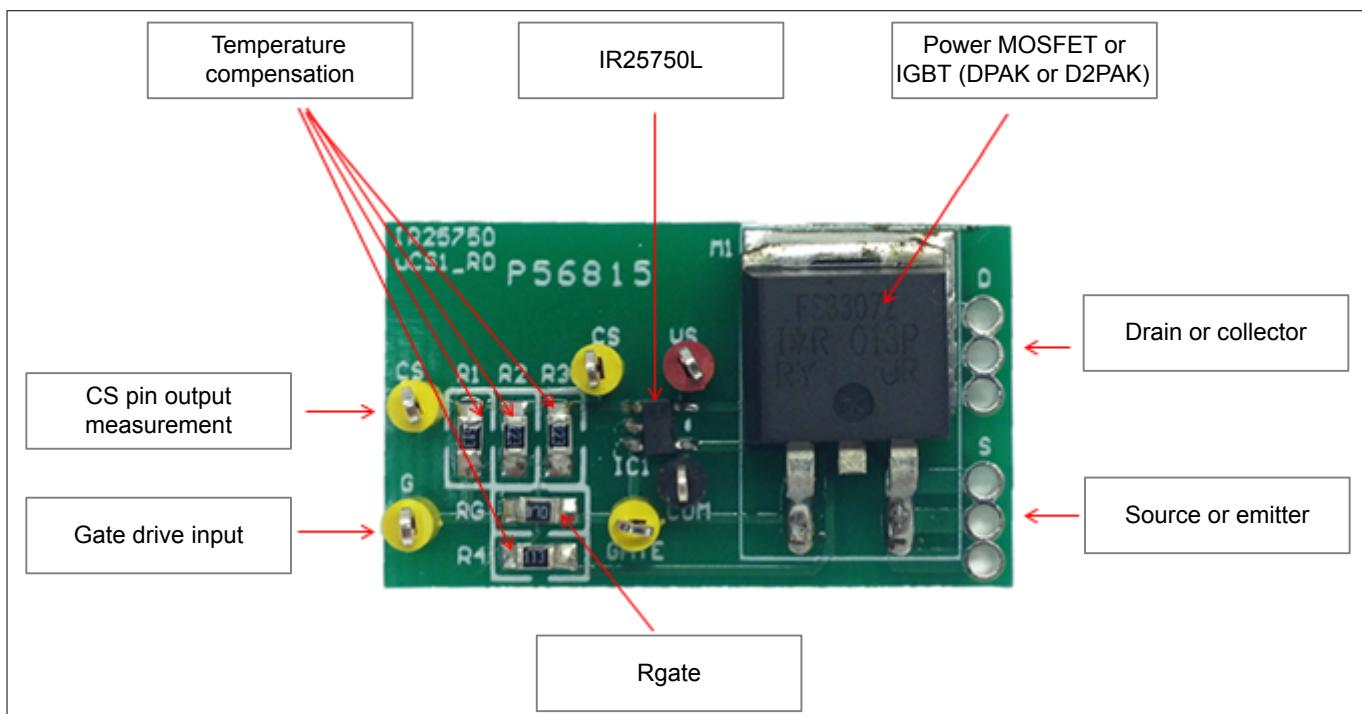

Figure 17 IRuCS1 adapter test board
A small adapter board (**IRuCS1**) is available for testing the IR25750L inside an actual switched-mode application. The board includes (**Figure 17**) the switching power MOSFET or IGBT (M1) footprint for DPAK or D2PAK, the IR25750L SOT-23 Current Sensing IC (IC1), the gate resistor (RG), and optional temperature compensation circuitry (R1, R2, R3, R4). The IR25750L is placed directly next to M1 and connected to the existing gate, drain and source signals of M1. The current sensing circuit does not have a VCC pin so no additional VCC trace or supply voltage is required. The IRuCS1 board includes test points for ease of measurement with an oscilloscope probe and can be easily connected into an existing switched-mode power circuit for fast in-circuit evaluation using the gate drive input, the drain or collector connection pads, and the source or emitter connection pads.